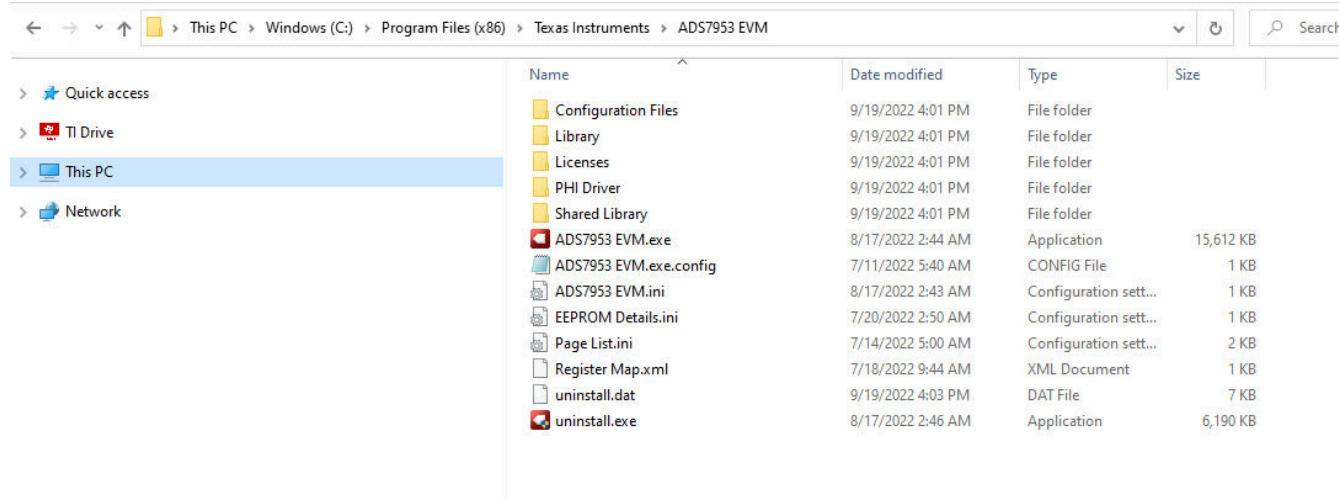

Figure 6-1. Launch the EVM GUI Software
3. Launch the device EVM GUI software from the installed path, as Figure 6-1 shows, or by using the desktop shortcut created during installation.